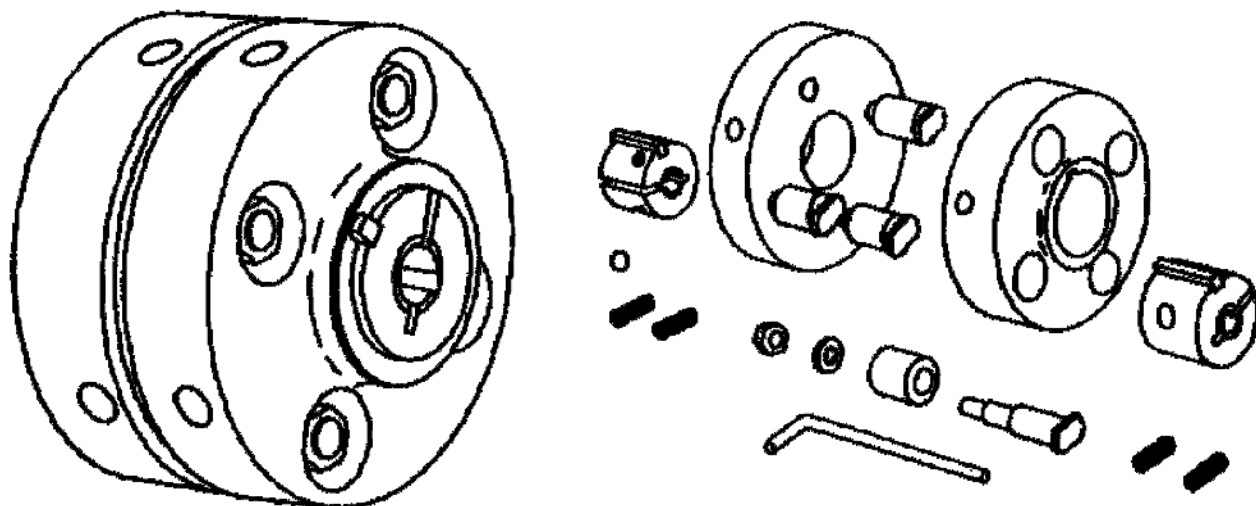

Figure 85. Flexible coupling.
24. The "Magic Grip" coupling, shown in figure 85, consists primarily of two cast iron discs and two bushings. The bushing is split, which allows it to slide easily on the shaft. The outer diameter of the bushing and the inside diameter of the coupling are tapered. There are four drilled recesses in the bushing which accommodate the OFF and ON positions of the setscrew holes of the coupling. The recesses in the bushings are offset so that when the setscrews are tightened the bushing will either draw in on the taper and